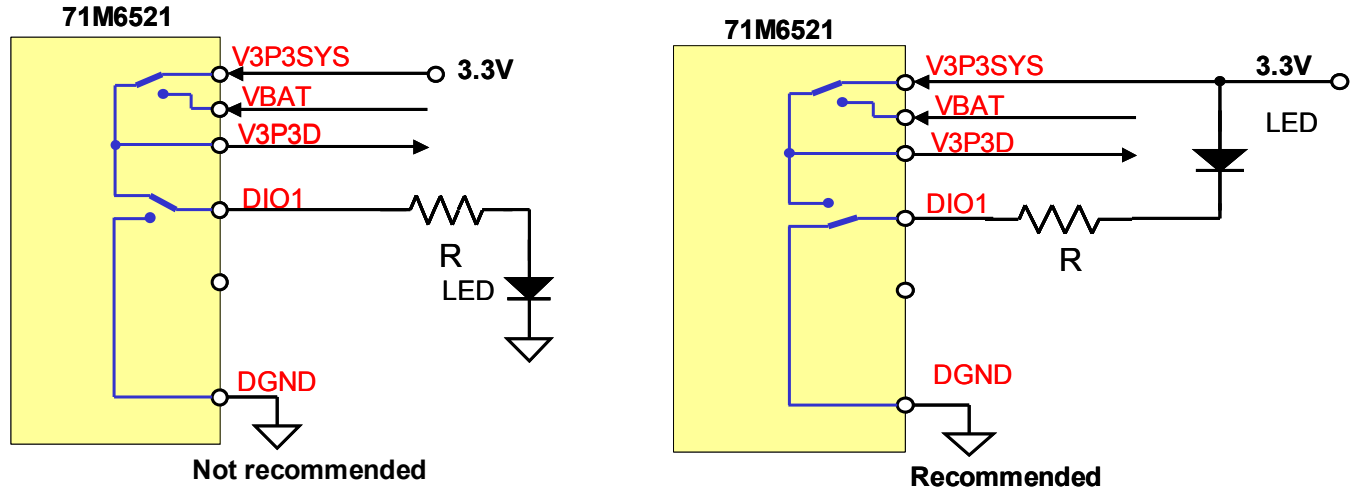

Figure 8: Connecting an External Load to DIO Pins
**When driving LEDs, relay coils etc., the DIO pins should sink the current into GNDD (as shown in Figure 8, right), not source it from V3P3D (as shown in Figure 8, left). This is due to the resistance of the internal switch that connects V3P3D to either V3P3SYS or VBAT.**